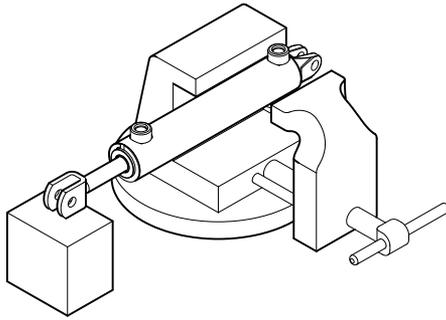

Figure 4-3, Cylinder Vise
2. Clamp the cylinder lightly at the base end in a soft jawed vise. Use a block or other support under the rod end of the cylinder. (Figure 4-3)